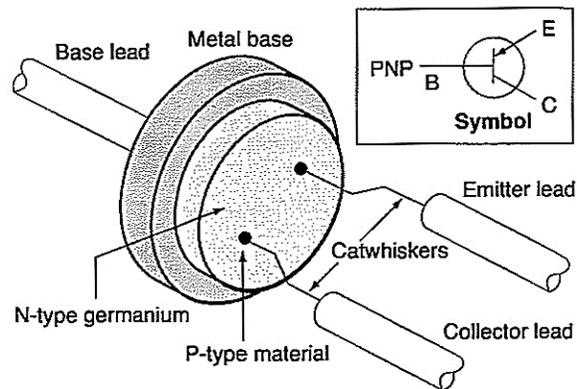

Figure 10.12: Point-Contact Transistor
- 10-75 The *point-contact transistor*, shown in Figure 10.12 on the next page, has two catwhiskers placed very close together on the surface of a germanium wafer. It is principally of historical interest, because it has been replaced in use by the junction transistor.